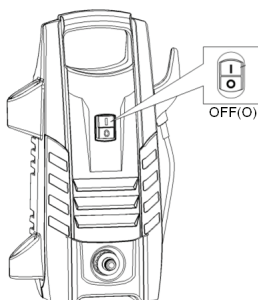

Figure 13
1. Press the ON/OFF switch to the OFF position marked O. See figure13.